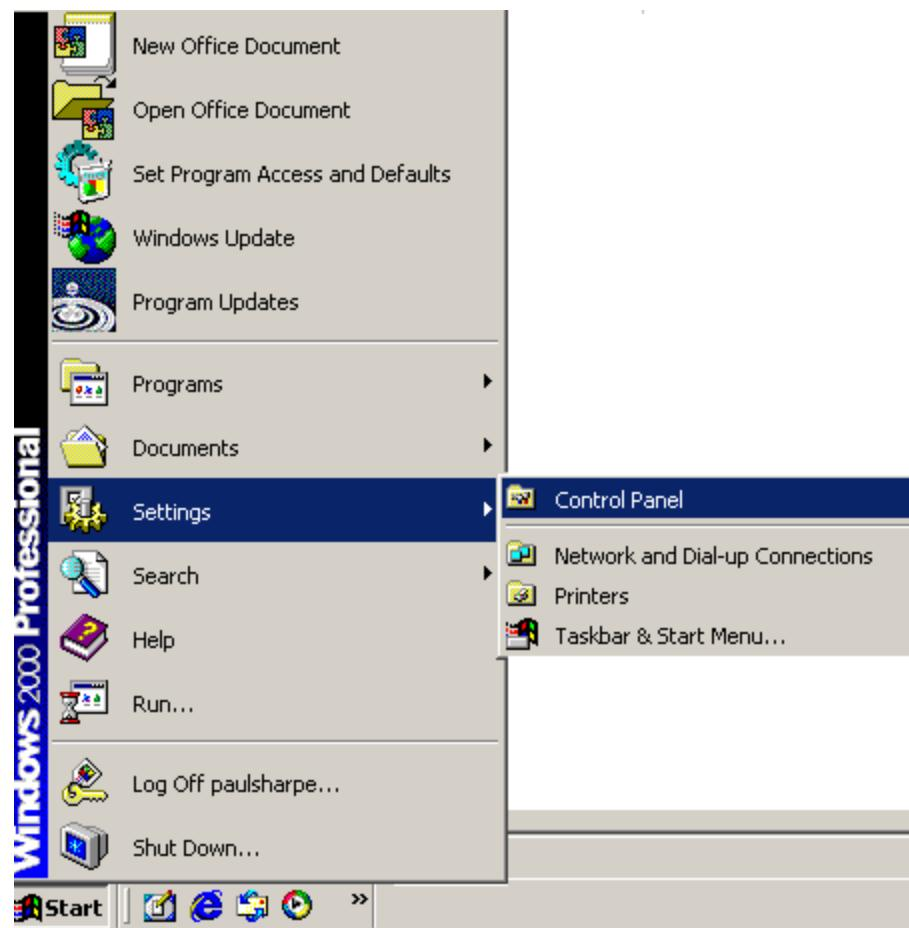

Figure 7-3: Access Windows Control Panel
Step 1: Open Windows Control Panel (Figure 7-3).